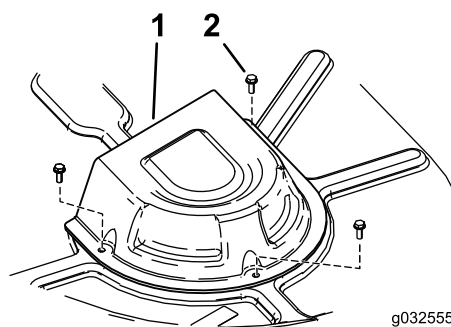

Figure 71
4. Remove the pulley covers (Figure 71).